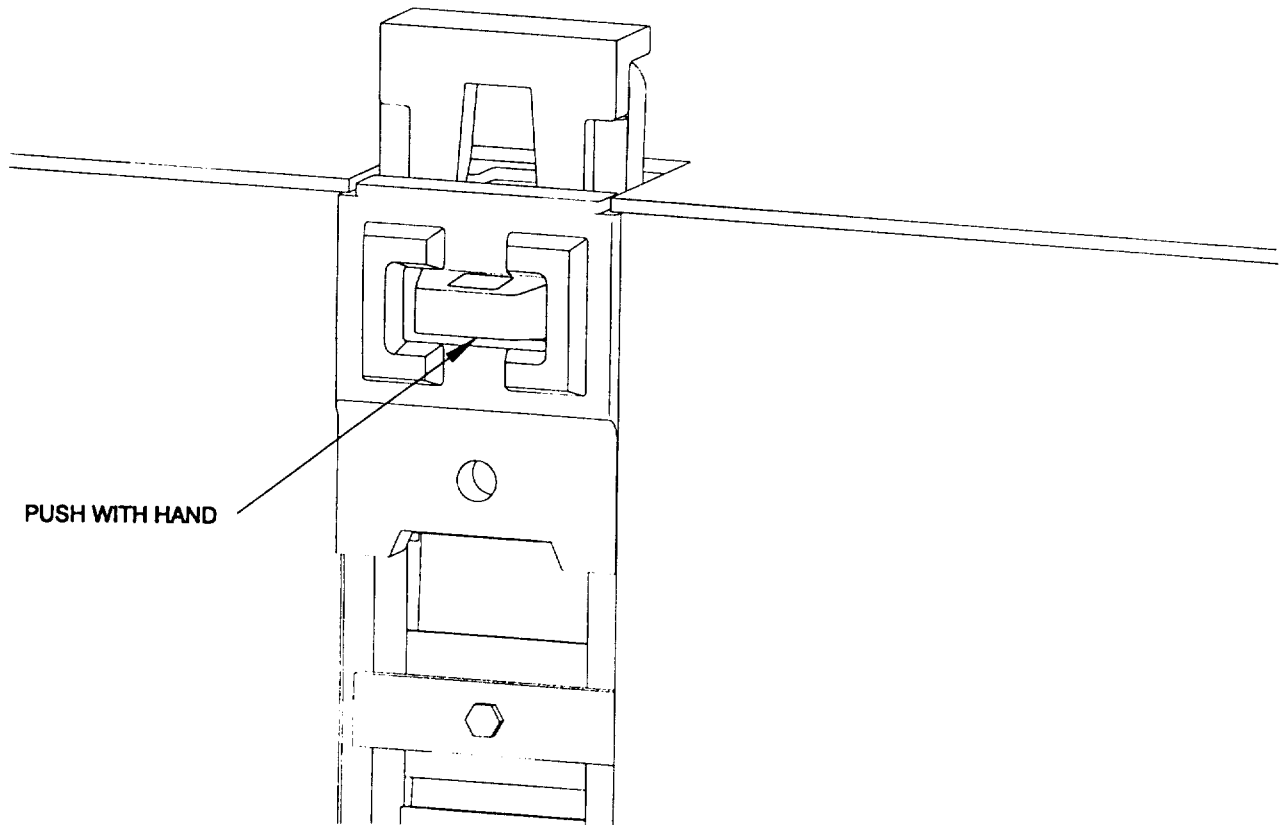

Figure 2-45. Stowing Male Connector Pins.
- d. Depress the upper connector pin against its deployment spring into the upper male housing with hand (Figure 2-45).